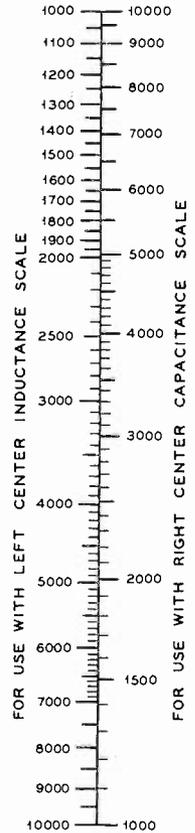
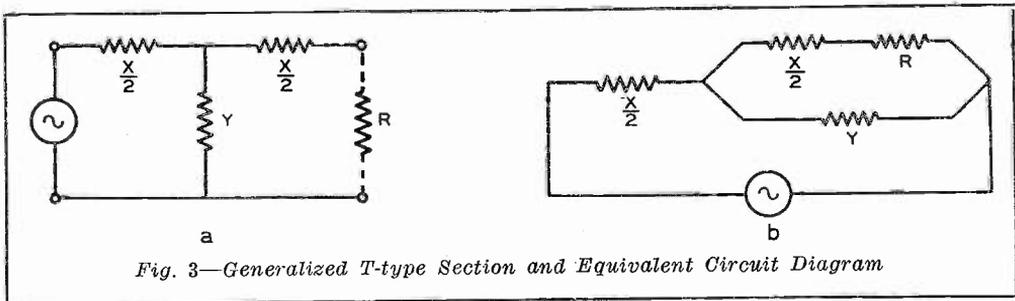
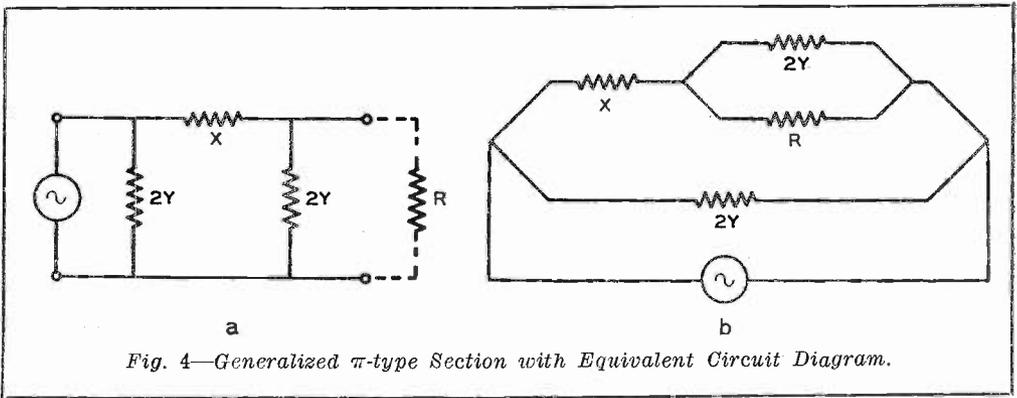

Fig. 1—Filter Design Calculator Chart for π - and T-type Sections.
Fig. 3—Generalized T-type Section and Equivalent Circuit Diagram
Fig. 4—Generalized π -type Section with Equivalent Circuit Diagram.
Two types of low-pass and high-pass filters are in general use. Because of their general shape, these are known as T-types and π -types, respectively. The two types for both low- and high-pass filters are shown at the top of Fig. 1. Here it may be noted that the high-pass filters of both types have condensers in series with the load, R , and inductances in parallel, thus passing the high frequencies to the load and by-passing the low frequencies. Conversely, the low-pass filters have inductances in series, thus passing the low frequencies, and condensers in parallel, thus by-passing the high frequencies, in the current supply to the load.
These proofs are given below. It may here be noted that eq(2) and (3) show that the cut-off frequency for a high-pass filter is $1/4$ of that for a low-pass filter, which explains the double frequency scale in Fig. 1. Supplementing these equations we also have the well-known formula
These values of L and C are for the total inductance or capacitance in the series or shunt arms. By referring to the filter circuit diagrams in Fig. 1 it may be noted that in order to provide a total inductance of L in the series arm of a low-pass T-section, each of the two coils in series must have an inductance of $L/2$; the single condenser in the shunt arm has a value of C . For the high-pass T-section with two condensers in series in the series arm, each condenser must have a capacity of $2C$ in order to give a total capacity of C ; the single coil in the shunt arm has an inductance of L . For the case of the low-pass π -type, the single coil in the series arm has an inductance of L , and each of the two condensers in parallel in the shunt arm has a capacity of $C/2$. Likewise for the high-pass π -type, the single condenser in the series arm has a capacity of C , and each of the two coils in parallel in the shunt arm has an inductance of $L/2$.
THE two T-type sections in Fig. 1 can then be represented by Fig. 3(a), whose equivalent circuit is shown in Fig. 3(b). The equivalent circuit shows x/2 to be in series with a parallel circuit consisting of y and (R+x/2). The impedance of the parallel circuit is found by solving for U in the equation
For the low-pass T-type section in Fig. 1, $x/2 = \omega L/2$ and $y = -1/\omega C$. Consequently
BY USING the generalized designations for series and shunt elements, the π -type filter sections in Fig. 1 can be represented by Fig. 4(a), whose equivalent circuit is shown in Fig. 4(b). The impedance of the parallel arm consisting of $2y$ and R
in Fig. 4(b) can be found by solving for U in the equation
For the low-pass π -type in Fig. 1, $x = L$ with a series reactance of ωL , and $2y = C/2$, whence the shunt reactance is $-1/\omega C$. Consequently,
For the high-pass π -type in Fig. 1, $x = C$ with a series reactance of $-1/\omega C$, and $2y = 2L$, whence the shunt reactance is ωL . By following the procedure previously employed we can readily find that